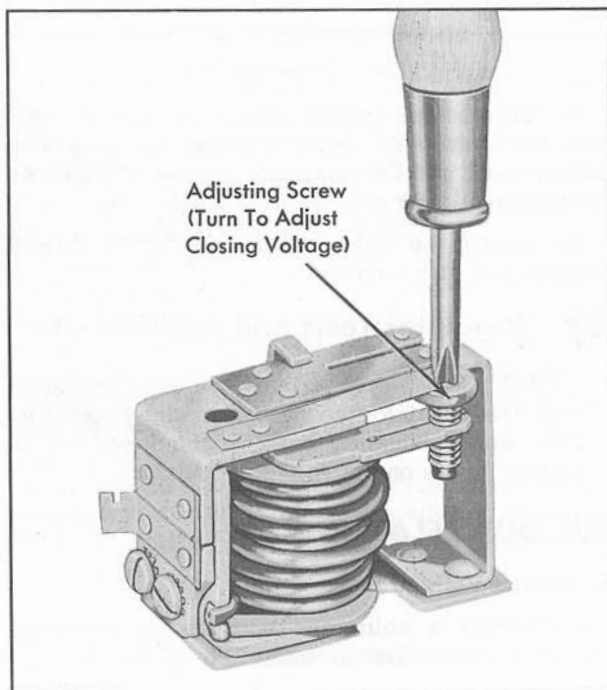

Fig. 12-4 Adjusting Cut-Out Relay Closing Voltage
1. Adjust the closing voltage by turning adjusting screw, Fig. 12-4. Turn the screw clockwise to increase setting and counter-clockwise to decrease the setting. Adjust setting to 12.8 volts.